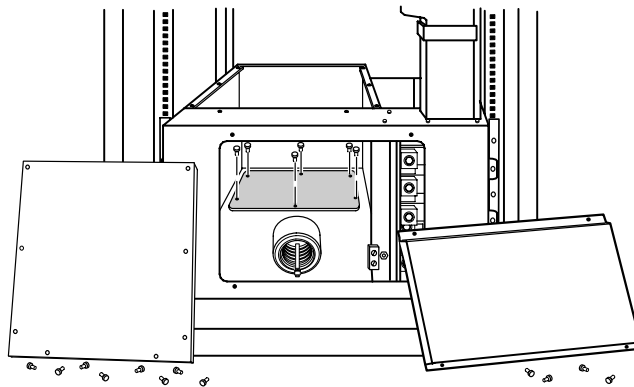

Figure 6. Removing the Conduit Landing Plate (Bottom Entry Shown)
4. Remove the six screws on the conduit landing plate and retain. Remove the plate and retain. See Figure 6.